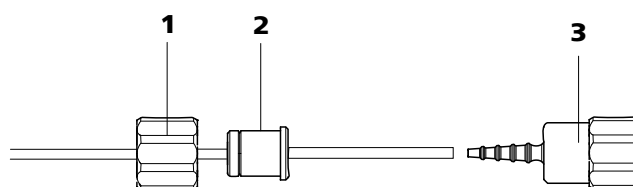

Figure 33 Install pump tubing connection without filter
- **Case B:** a 6.2744.160 pump tubing connection **without filter** (see Figure 33, page 63).